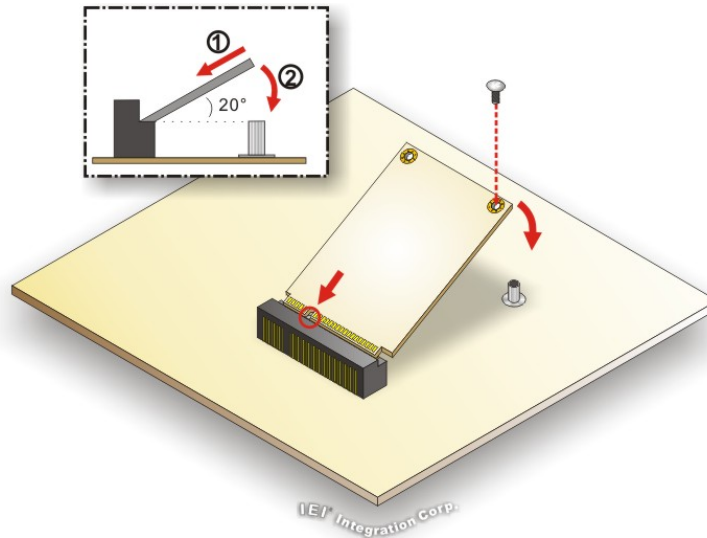

Figure 3-5: mSATA Module Installation
Step 4: Secure the mSATA module with the retention screw. Push the other end of the mSATA module down and secure the module with the previously removed retention screw (**Figure 3-5**).